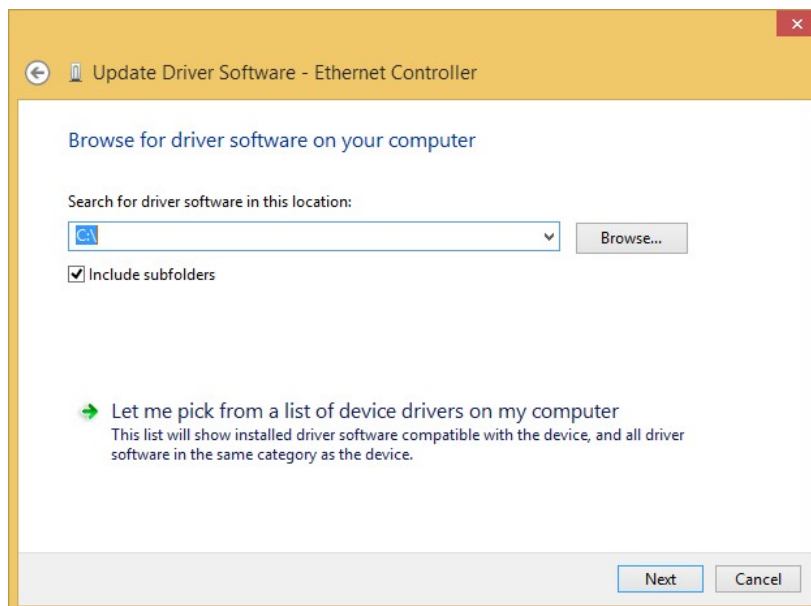

Figure 6-17: Locate Driver Files
Step 9: Click Browse to select “X:\2-LAN\Intel” directory in the **Locate File** window, where “X:\” is the system CD drive. (Figure 6-17).